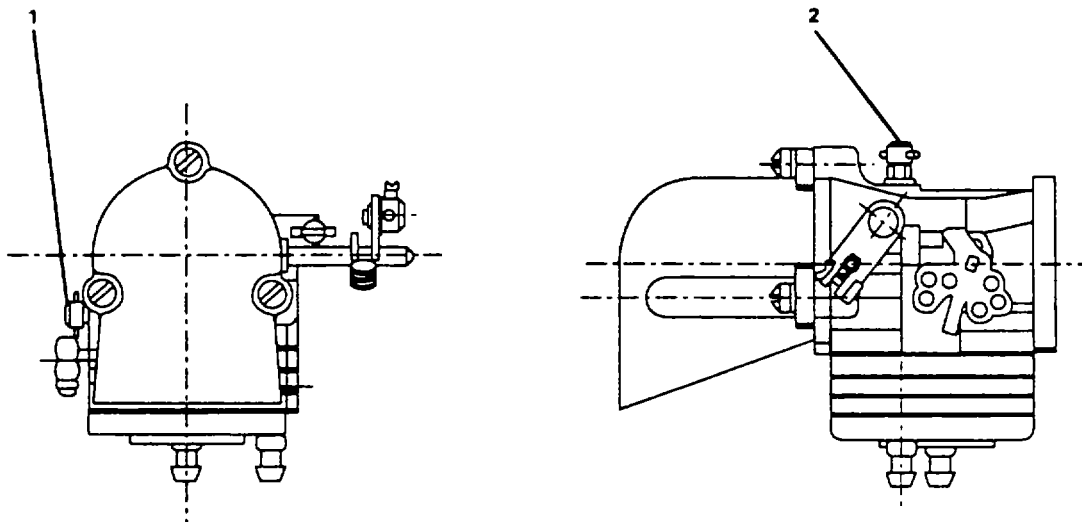

Figure 2-122. Carburetor Adjustment
- a. Turn idle fuel adjustment screw (1, Figure 2-122) and main fuel adjustment screw (2) clockwise until they bottom.